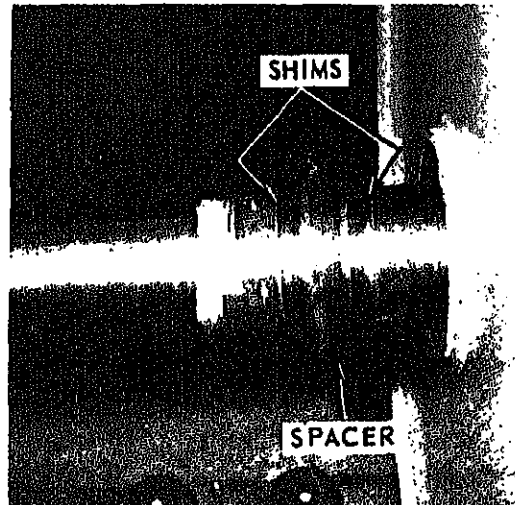

FIGURE 9-105.
d. Install shim(s) in original location (see step e, paragraph 9-101). Insert shims into one drum, then insert the other shims on the other side of the shaft assembly (see figure 9-105).